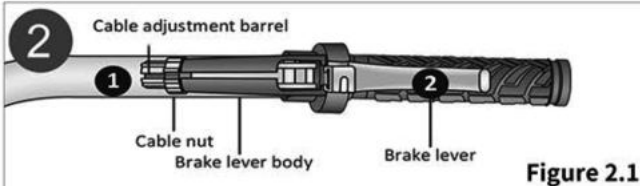

Figure 2.1
- ① Rotate the cable adjustment barrel and cable nut until the slots are aligned with the slot on the brake lever body. Figure 2.1
- ② Press the brake lever towards the grip.